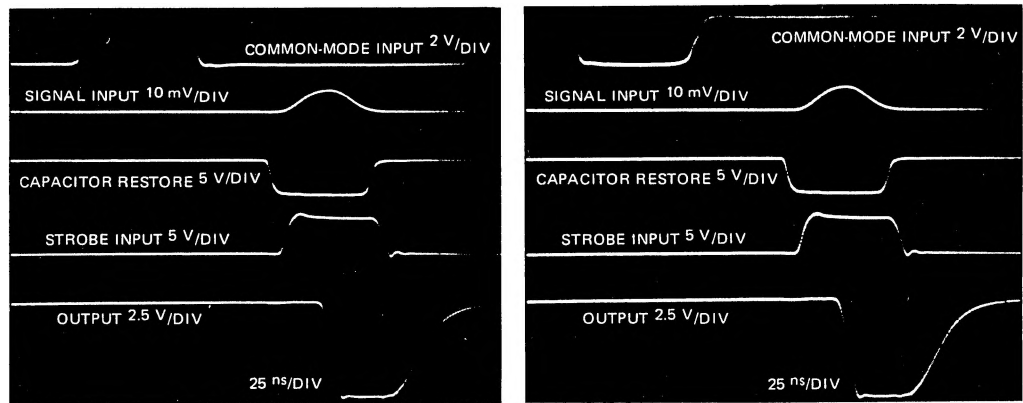

FIGURE 22 – DIFFERENTIAL MODE CHARACTERISTICS
- $t_{DMR \pm}$  The minimum time between the 50% level of the trailing edge of a + or - 1 volt differential-mode signal ( $t_r = t_f \leq 15 \text{ ns}$ ) and the 50% level of the leading edge of a 5 mV input pulse when the capacitor restore and strobe inputs are used in a normal manner as shown in Figure 22